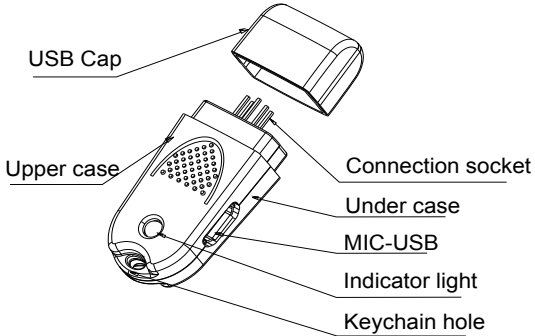

Figure B-1 Uploading and downloading module structure diagram
Uploading and downloading module structure diagram shown in figure B-1 :
Step 1 :Installing the upload and download module in the inverter control board UP / DOWNLOAD location (As shown in figure B-1) .